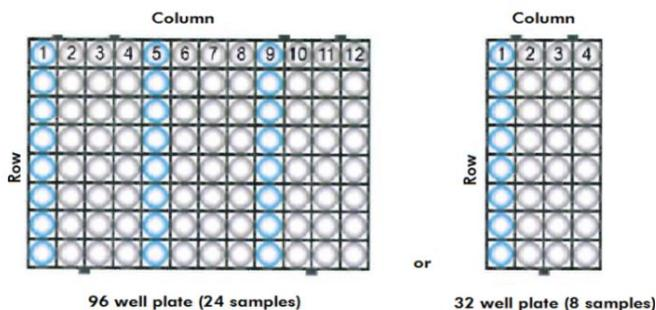

Figure 3. Types of cartridges and set up
4. Pipet 200 µl sample into the bottom of the first column (marked in blue in Fig. 3).
5. Add 500 µl Lysis Buffer to each sample in the first column (marked in blue in Fig. 3).